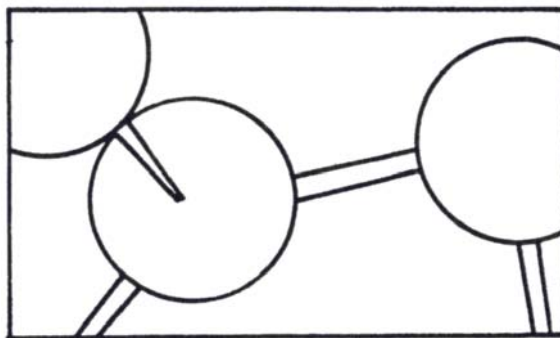

Figure 7.4
1. Using a molecular model, draw a series of small preliminary sketches of the chosen model, emphasizing interesting positive and negative space. A sketch need not be completely contained by the edges of the paper; allow some parts of the drawing to touch the edge of the page, implying extension beyond the page. Try combining two or more models in one sketch. The typical shape for a sketch would be rectangular, but the outer shape might be square, circular, or triangular. (See Figure 7.4.)